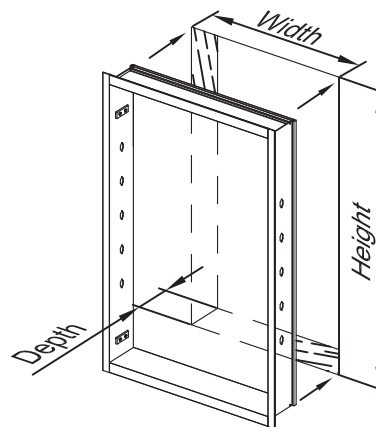
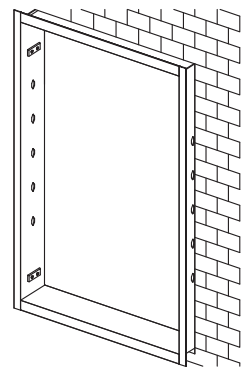

Fig 3
Fig 4
2. Make sure hinges are on correct side of opening for left hand or right hand operation. Place cabinet box into rough opening. On fully recessed applications, make sure cabinet flange covers rough opening evenly all around (Fig 3). On semi-recess applications, mirror edges should meet wall surface. (Fig 4). Shim as needed.